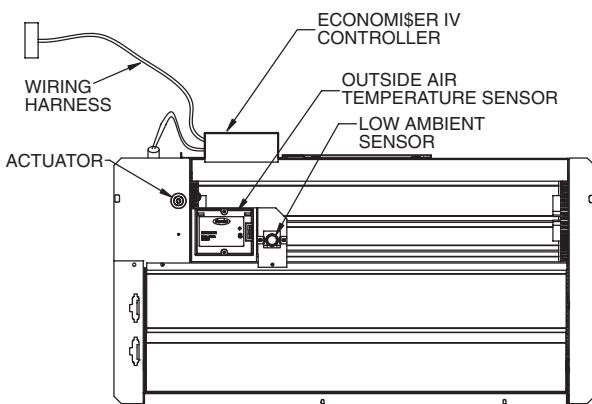
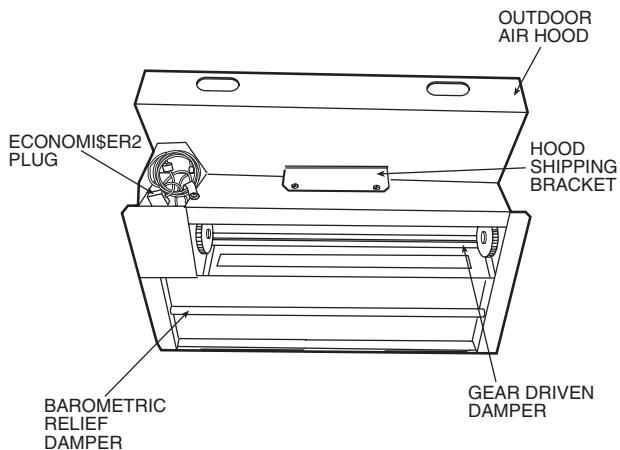
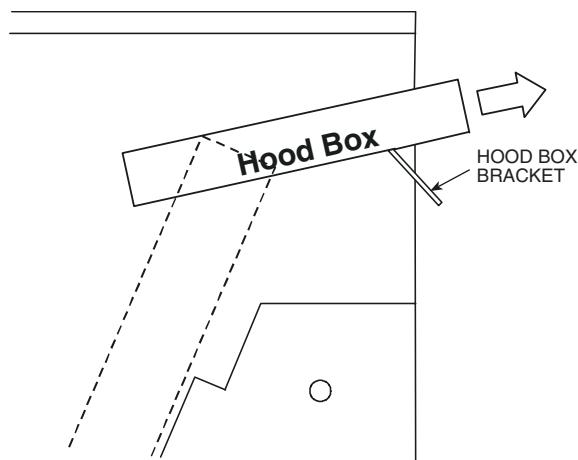

Fig. 19 — EconoMi\$er IV Component Locations
Fig. 20 — EconoMi\$er2 Component Locations
Fig. 22 — Hood Box Removal
OPTIONAL ECONOMI\$ER IV AND ECONOMI\$ER2 — See Fig. 19 for EconoMi\$er IV component locations. See Fig. 20 for EconoMi\$er2 component locations.
2. The box with the economizer hood components is shipped in the compartment behind the economizer. The EconoMi\$er IV controller is mounted on top of the EconoMi\$er IV in the position shown in Fig. 19. The optional EconoMi\$er2 with 4 to 20 mA actuator signal control does not include the EconoMi\$er IV controller. To remove the component box from its shipping position, remove the screw holding the hood box bracket to the top of the economizer. Slide the hood box out of the unit. See Fig. 22.
Outdoor Air Temperature (OAT) Sensor — The outdoor air temperature sensor (HH57AC074) is a 10 to 20 mA device used to measure the outdoor-air temperature. The outdoor-air temperature is used to determine when the EconoMi\$er IV can be used for free cooling. The sensor is factory-installed on the EconoMi\$er IV in the outdoor airstream. See Fig. 19. The operating range of temperature measurement is 40 to 100 F.
Outdoor Air Lockout Sensor — The EconoMi\$er IV is equipped with an ambient temperature lockout switch located in the outdoor air stream which is used to lockout the compressors below a 42 F ambient temperature. See Fig. 19.